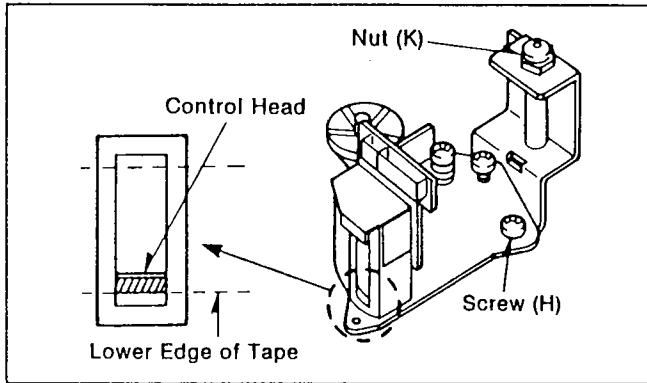

Figure M20
With the tape running, look at the lower edge of the control head by using the check light and check if the lower edge of tape runs along the lower edge of the control head. If it doesn't slightly turn the nut (K) behind the A/C Head (Figure M20) to either lower or raise the A/C head so that the tape runs along the lower edge of the control head. Turn the nut (K) clockwise to lower the head, and counter-clockwise to raise it.
3. Adjust the nut (K)(Figure M20) so that the envelope becomes maximum.